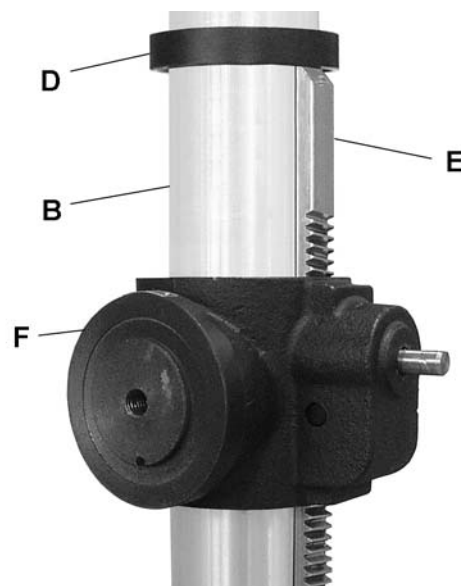

Figure 3
1. Remove the wrap and take the rack ring (D) and rack (E) off the column (B).
2. Insert worm gear shaft (G) through hole of bracket (F) and mesh with worm (H).
3. Position rack (E) in U-slot of bracket with arrow pointing upward, and slide this assembly together onto the column.
4. Slide rack ring (D) over column (B), placing it so it rests against rack (E) as shown in Figure 3. Tighten firmly with 3mm hex wrench (provided).